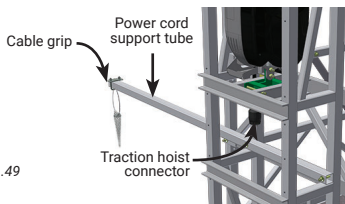

fig. 1.50
- 2- Using a U-bolt assembly, install the cable grip assembly on the support (fig. 1.50), at approximately 6' (1,8 m) from the traction hoist connector inside the car.